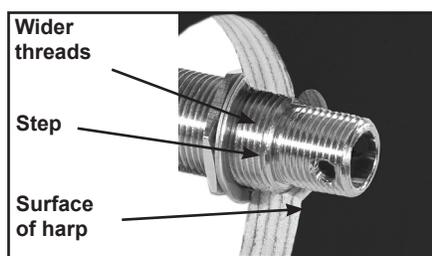

Figure 15b – Jack installation
6. Reach inside the harp and carefully push the end of the jack up through the hole you drilled in the back of the harp. Adjust the inner nut so the step to the wider threads sits about $\frac{1}{16}$ " (1.5mm) below the outer surface of the harp body (*see figure 15b*).